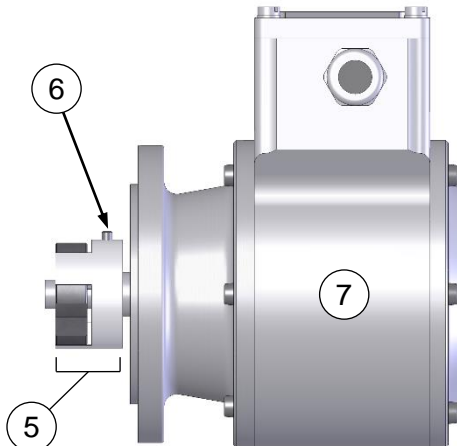

Fig. 4
Overspeed switch design types B5/B14 and B35/B14 have a second shaft extension with integrated coupling half (1) and a B14 type flange (2) on the non-drive end, onto which it is possible to fit an additional device with a B5 flange, for example an incremental encoder, absolute shaft encoder or an overspeed switch. A second coupling half with elastomer ring (5, Figure 4), which is available as an accessory, is required to fit an additional device.